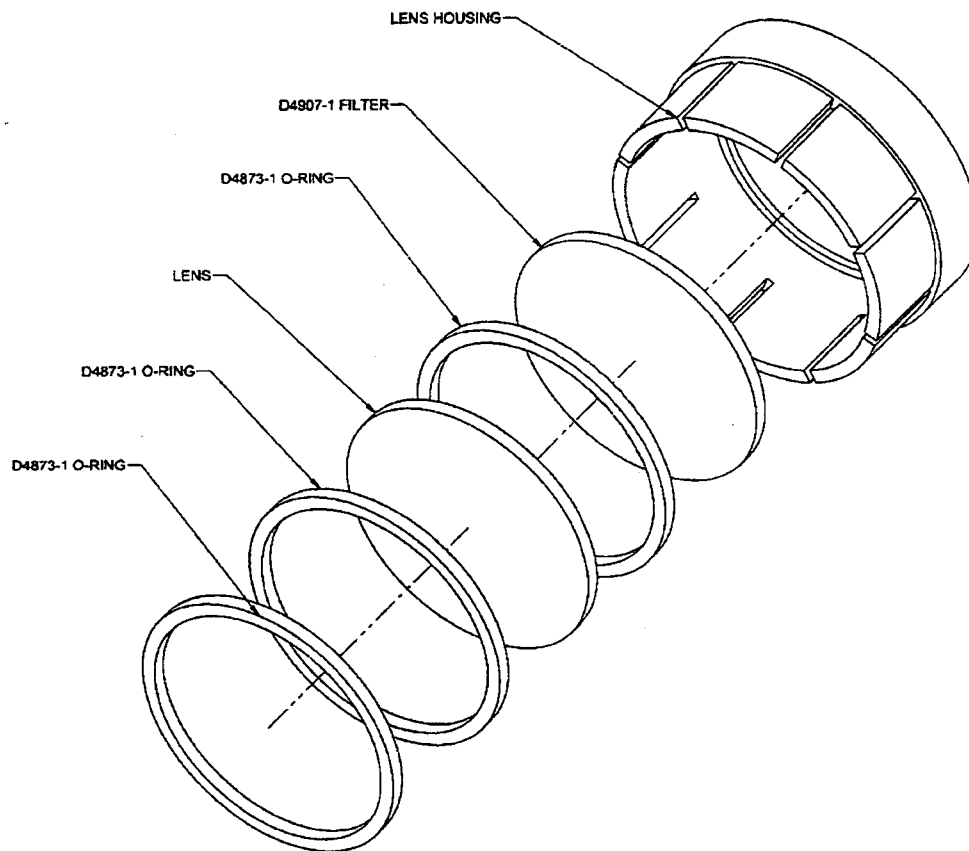

Figure 25-7 - NVIS Filter Installation
- 25.3.1. Refer to Figure 25-7 for assembly details.
- 25.4.1. Refer to Figure 25-7 for assembly details.